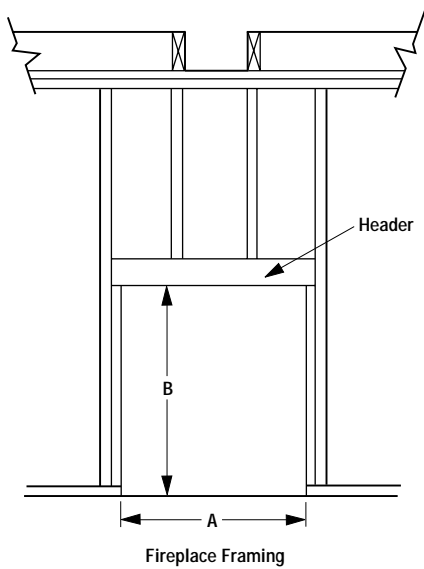

Figure 10
Step 3. Refer to fireplace drawings and specifications on pages 6 and 7 for framing dimensions and details. Frame appliance enclosure as illustrated in Figures 10 through 13 on page 7.